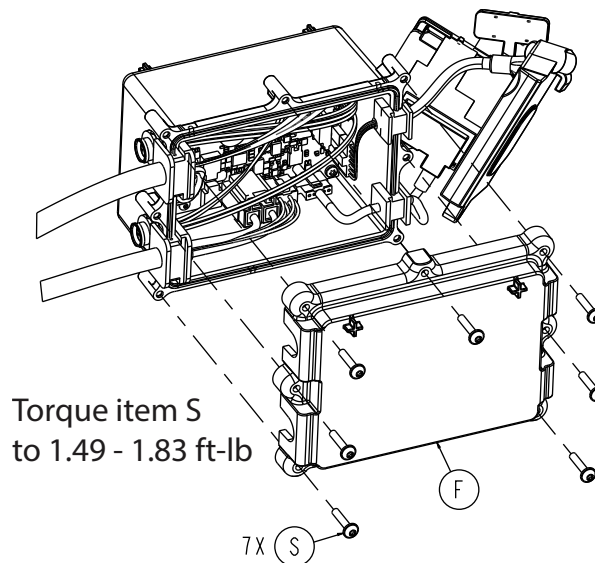

Figure 90 – Remove the HBC top cover screws
27. Using a T20 Torx driver, remove the seven round washer head tapping screws (S) that secure the top cover (F) to the HBC enclosure assembly (Figure 90). Remove and save the top cover. Save the screws.